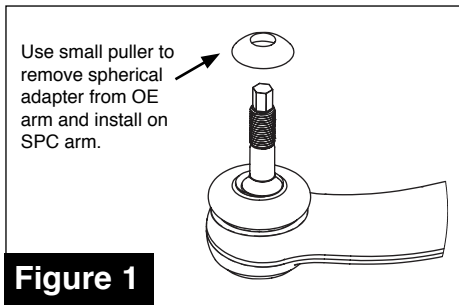

Figure 1
6. Using SPC **P/N 8370** Tie Rod Separator or similar, remove spherical washer from tie rod end of OE UCA as shown in **Fig. 1**.